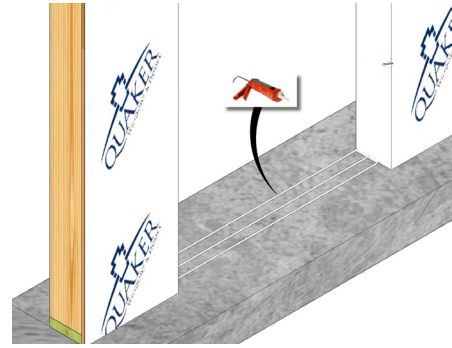

Fig. 2
1. Apply three 1/4" continuous beads of silicone across the entire width of the rough opening sill, and a 1/4" continuous bead of silicone 1/2" from each side of the rough opening. The bead will run the entire depth of the sub-sill anchor plate starting at the face of the wall. (Fig. 2)